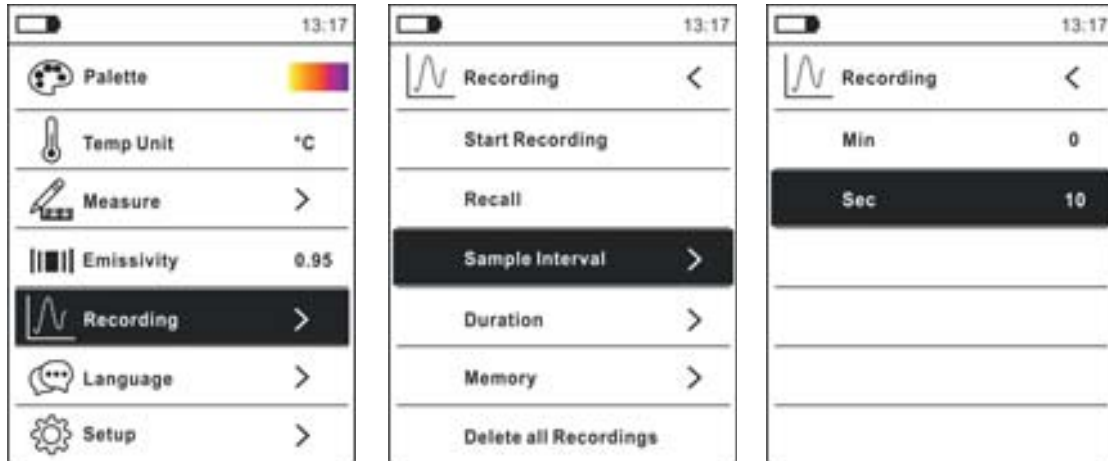

Fig. 35: Data logger function – Setting of the sampling interval
2. Press key **MENU** , select item “Recording” and press key **▶**. The screen in Fig. 35 – left side appears on the display.
3. Select item “Sample Interval” (see Fig. 35 – middle) and press key **▶** to select the sampling interval for recording. The screen in Fig. 35 – right side appears on the display.